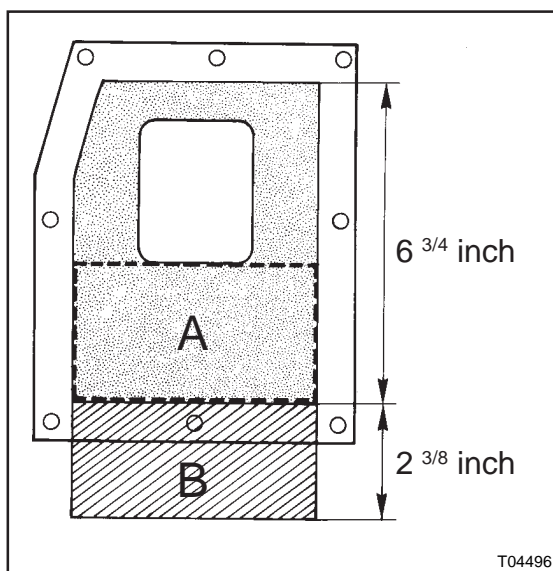

Figure 41: Intercooler closing rubber, removal and flitch panel modification
- b If the height of the rubber measures 172 mm (6 3/4 inch), first remove the rubber as explained in item 5a (see also A - Figure 41). Next, cut through the lower part of the mounting frame and through the flitch panel steel with a reciprocating saw to modify the flitch panel opening as shown by B - Figure 41.